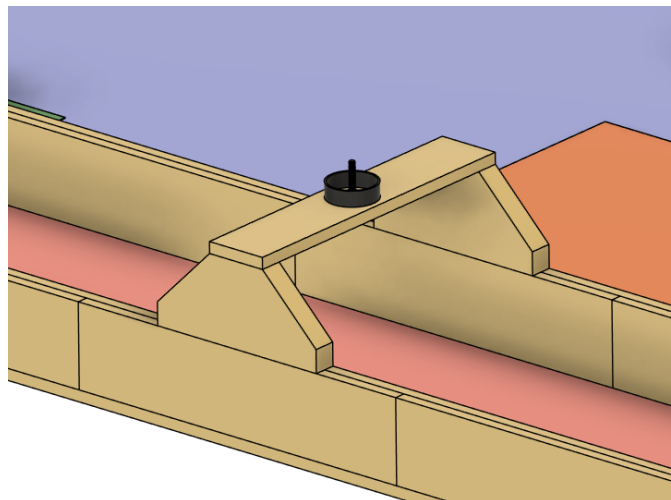

Figure 8: Calf
- 4.2.3.4. Aligned with the center of the court is a calf, represented by a carriage bolt, onto which the autonomous robot can place the calf rope to score points (see Figure 8).